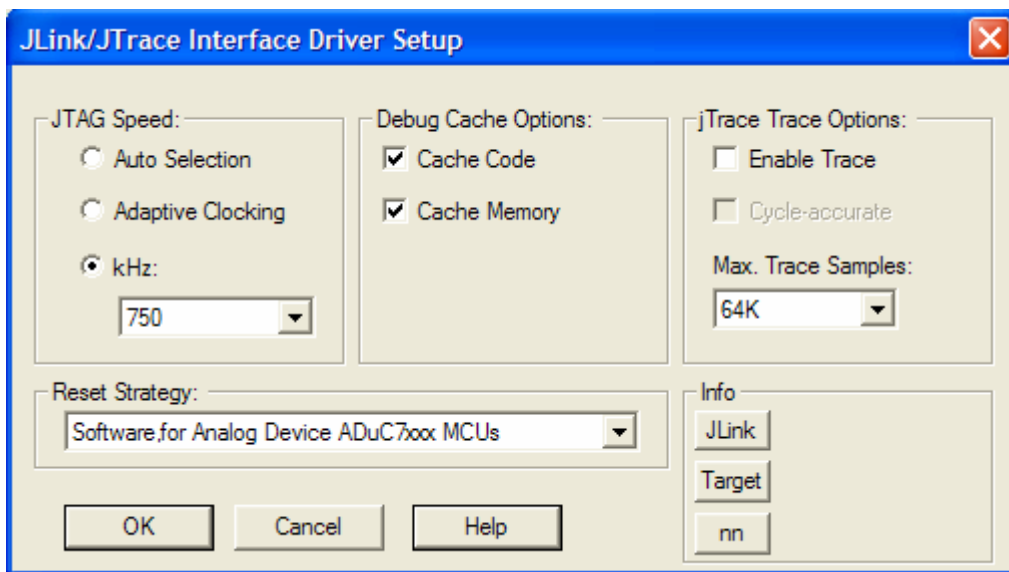

Figure 9
(5) Put the bellowing settings in the J-LINK interface driver setup as figure 9 shows.